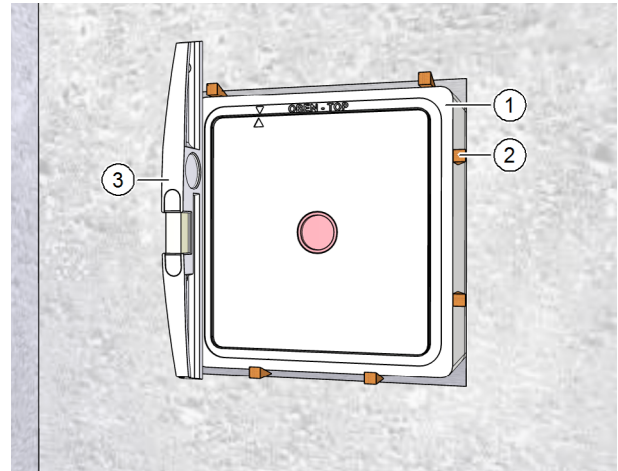

Fig. 12: Fixing the wall box
- ▶ Fix the wall box (item 1 in Fig. 12) in position in the wall breakthrough using wedges or air cushions (item 2 in Fig. 12).
- ▶ Use the spirit level (item 3 in Fig. 12) to align the wall box so that it is perpendicular and flush with the wall.